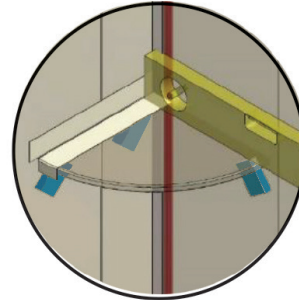

FIG 31.
- Place shelf in position and check for level. Optional - apply masking tape to shelf/wall (FIG 31).